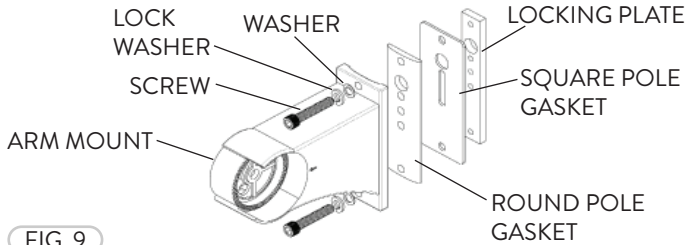

FIG. 9
- 1** The Arm Mount is available for all FFHL fixtures (Fig. 9). The Arm Mount can be mounted on either a Square or Round pole.